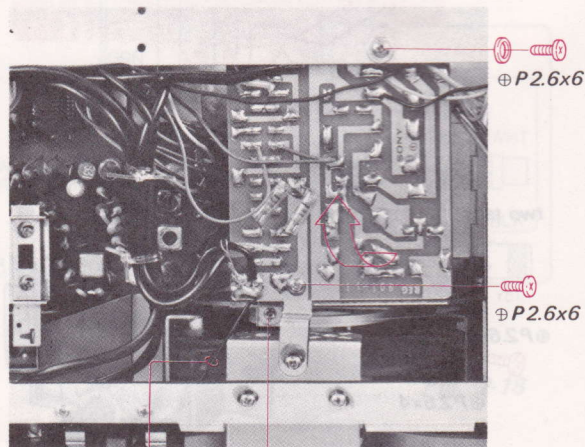

Fig. 2-30
1. Remove the two screws shown in Fig. 2-30.
4. Remove the circuit board in the direction shown by the arrow in Fig. 2-30.